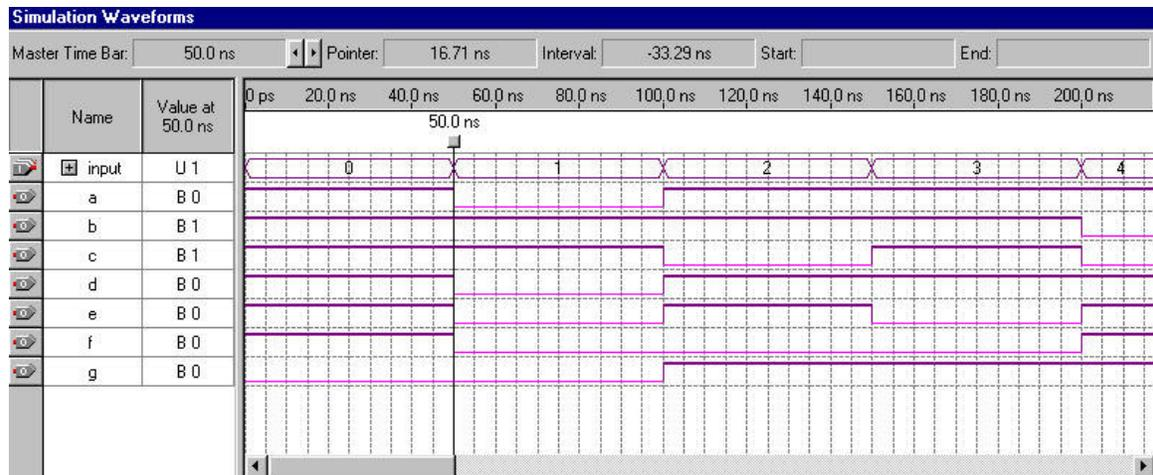

Figure 3-6.
- Check to see if you get the same results shown in Figure 3-6.